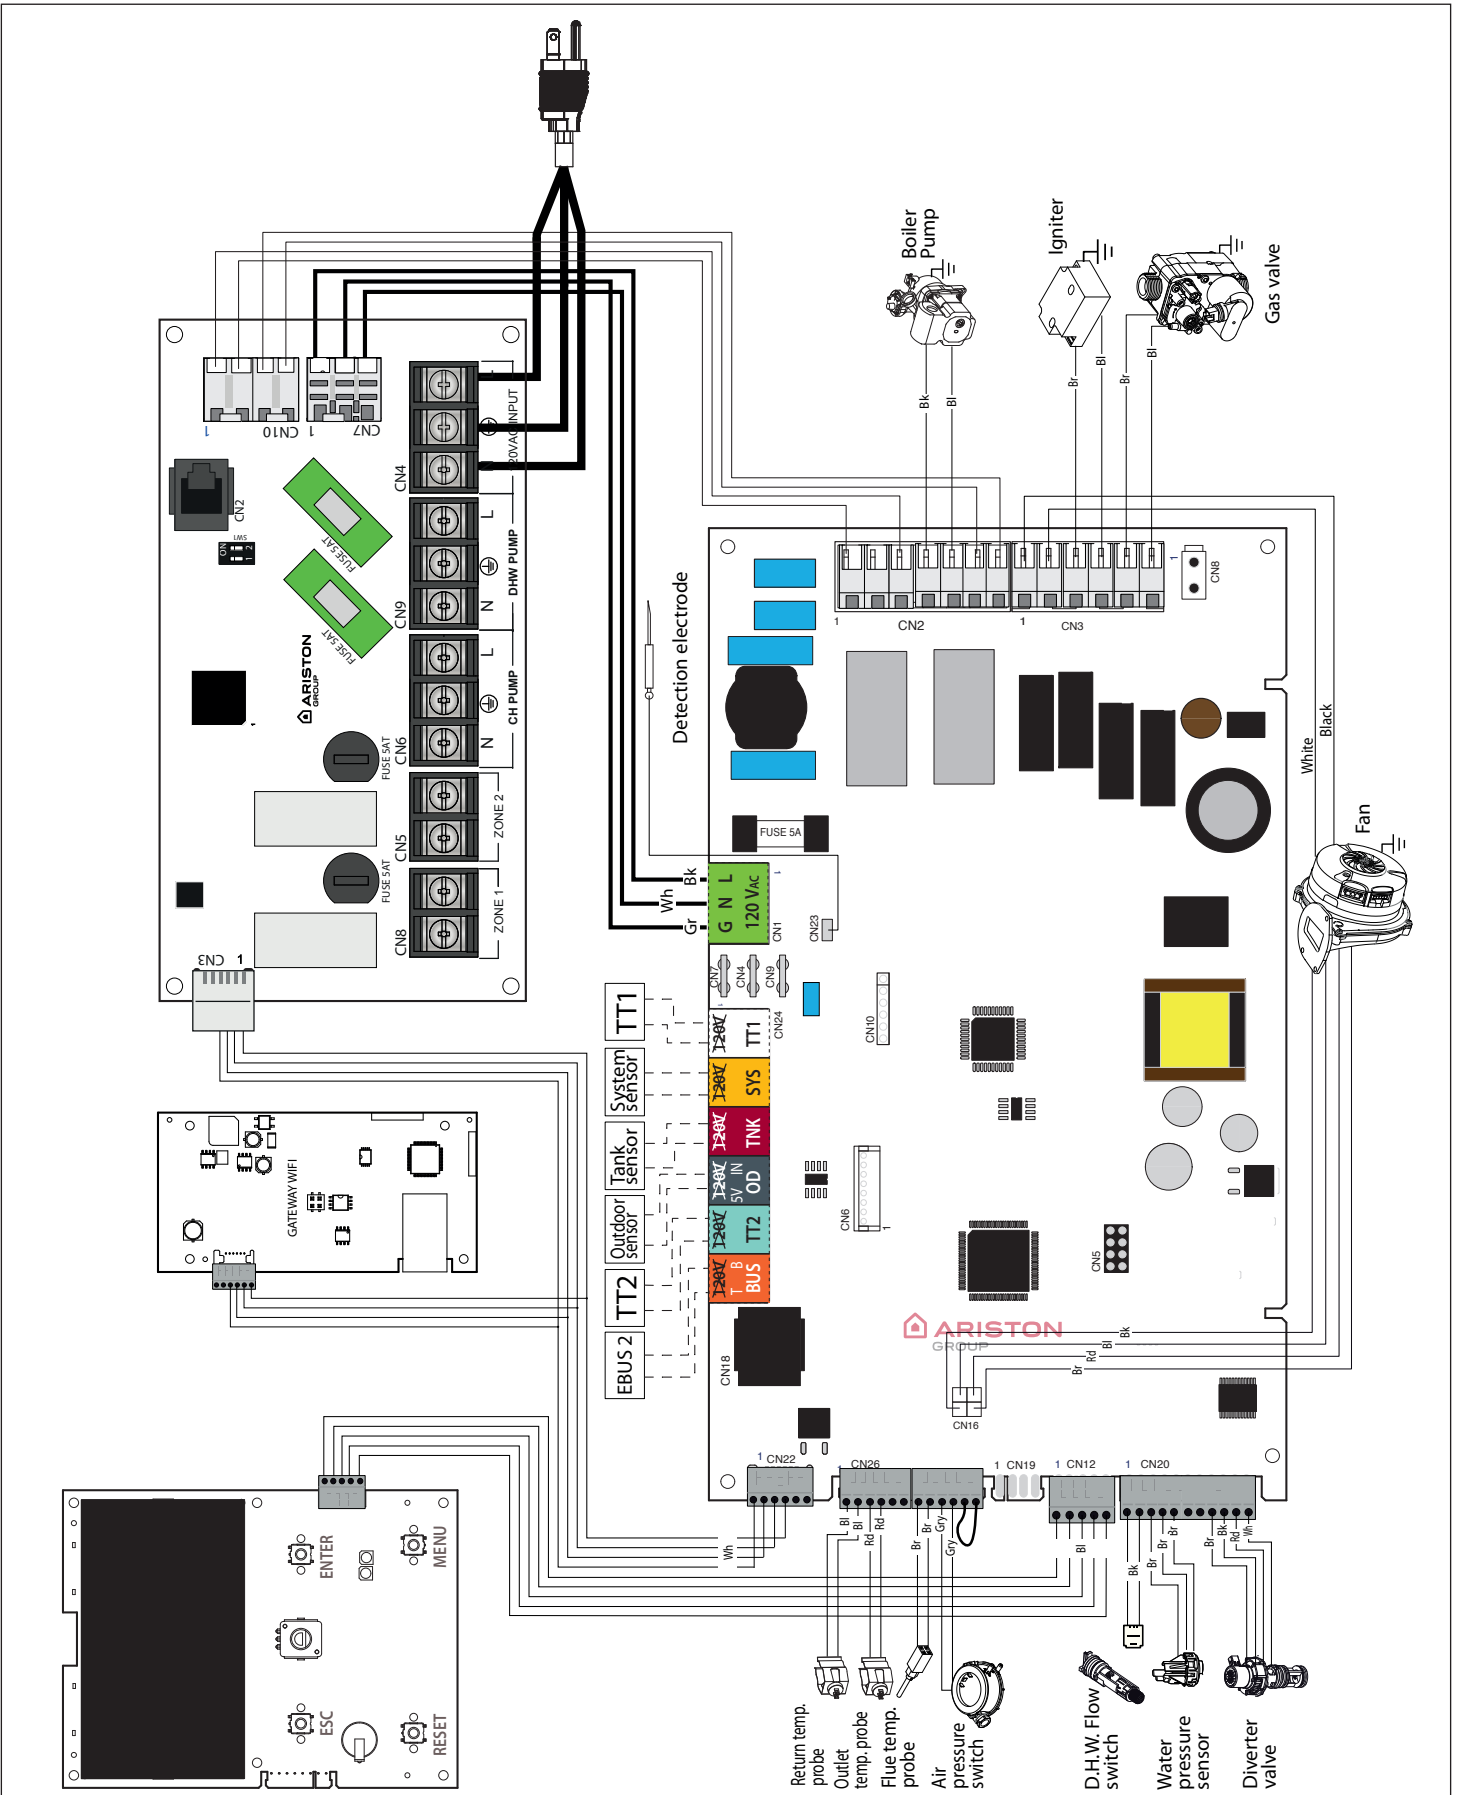

Figure 69 - Electrical Wiring Diagram
3. Connect the room thermostat wires to the terminals indicated in Table 19 and Figure 69.